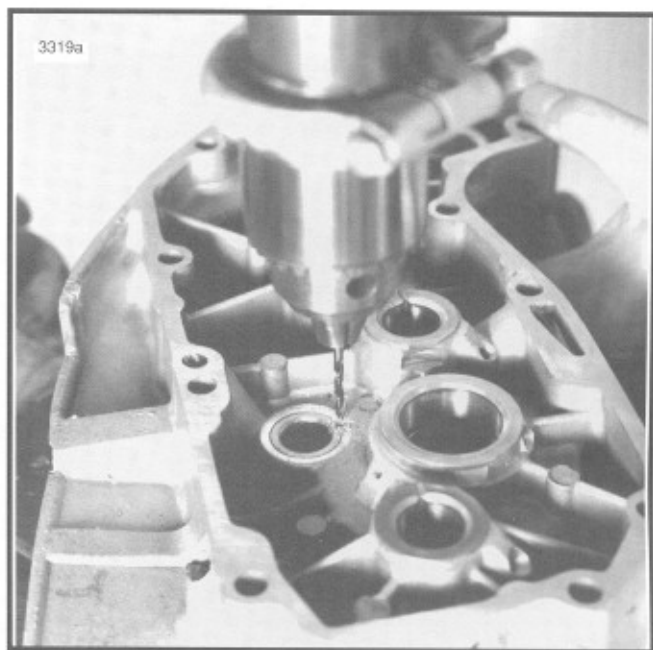

Figure 3-66. Drilling Dowel Pin Hole
2. Although the original pinion shaft bushing is not "pinned," the replacement bushing must be secured, from possible rotation within the cover bore, by installation of a dowel pin. See Figure 3-66. Drill a No. 31 hole, 0.281 in. (7.14 mm) deep, at top side of boss (side toward top of gearcase cover), centering the drill bit on the cover bore circle (hole is drilled half in bushing O.D. and half in cover bore I.D.).